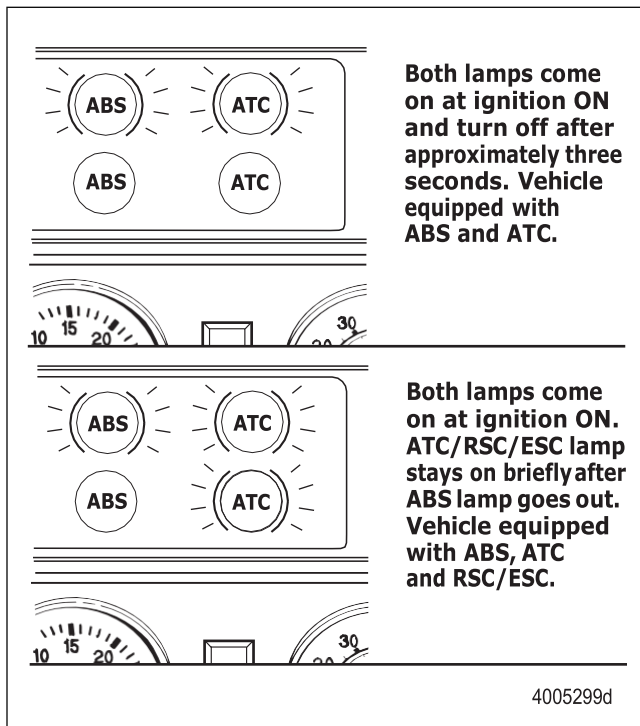

Figure 2.6
- If the vehicle is equipped with ATC, but not RSC/ESC, when the ignition is turned to the ON position, the ABS and ATC lamps will light for approximately three seconds, then both lamps will turn off simultaneously. Figure 2.6.